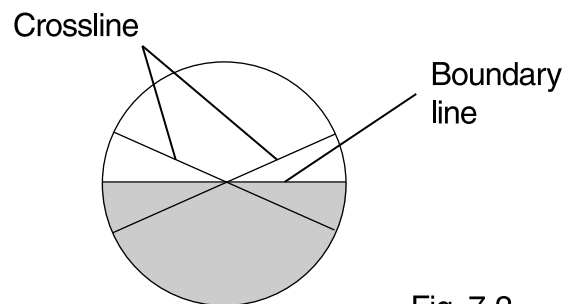

Fig. 7-2
- ② Observing through the eyepiece, turn the measurement knob to match the boundary line with the intersection point of the crossline (Fig. 7-2). When the color blurs on the boundary line, turn the color compensator knob to remove the color blurring.